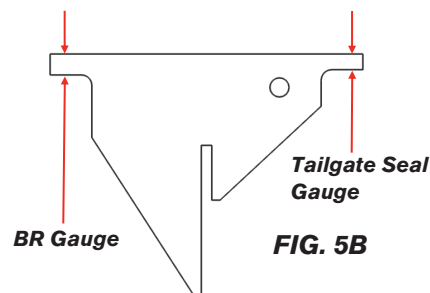

FIG. 5B
- Another way to set the tailgate cap seals is to use the Tailgate Seal Gauge as shown in figure 5B & 5C. You should be able to just slide the Tailgate Seal Gauge in between the Tailgate Cap Seal and the Bottom Cap.